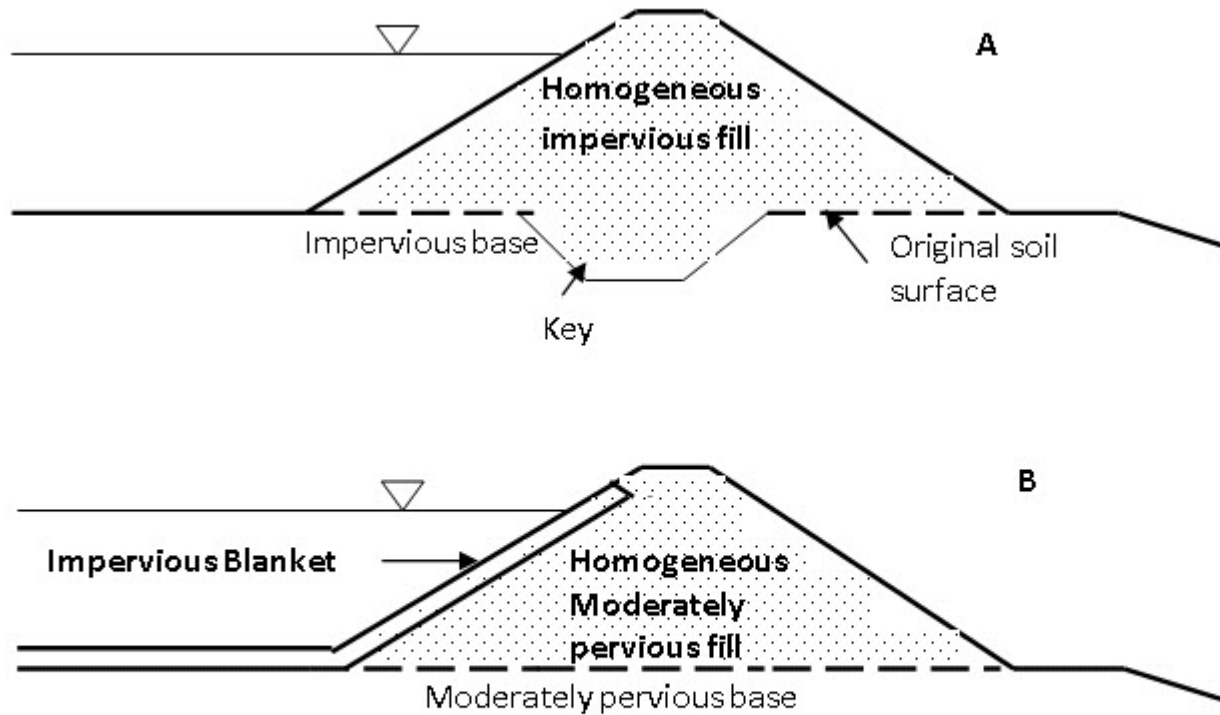

Fig. 23.1. Different types of Homogeneous earthen embankment/dam.
- The homogeneous soil material is either keyed in to the impervious base (see Fig. 23.1 A) or impervious soil material can be placed as blanket to the upstream slope of the embankment (see Fig. 23.1 B).